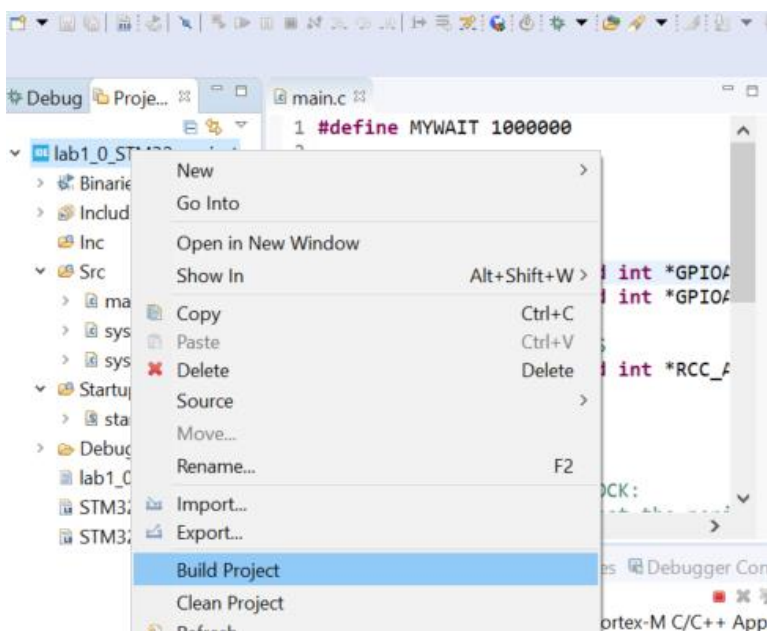

Figure 13: Build command.
- **Figure 13**). Alternatively, you can click on the hammer symbol or directly launch *Build All* from the Project menu. Compilation errors are provided in both Console and Problems windows. By clicking on an error, you can jump to the related instruction in the source file and correct it.